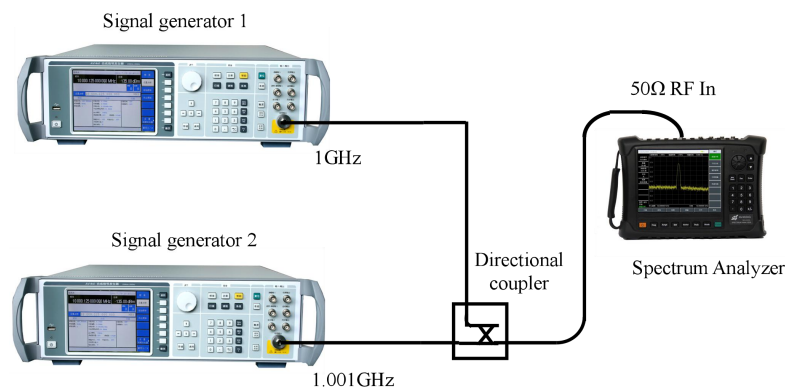

Fig. 4-5 Connection of Third-order IM Distortion Measurement System
a) Connect the tested instrument with spectrum analyzer as shown in Fig. 4-5.